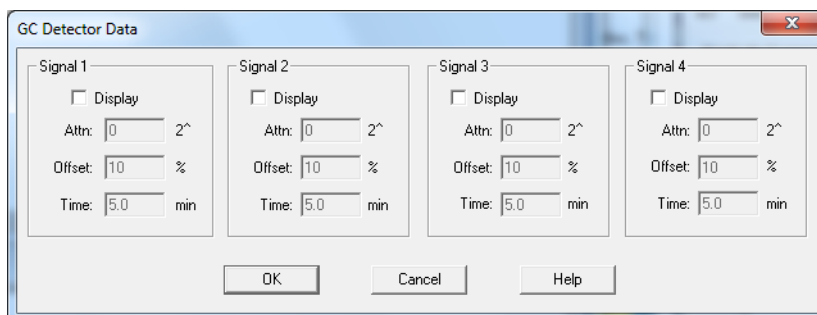

Figure 15 Selecting GC signals to plot in real time
- 3 Select **OK** to download the selected parameters to the GC and close the **GC Edit parameters** window. The **GC Detector Data** dialog box opens. See Figure 15 on page 42.